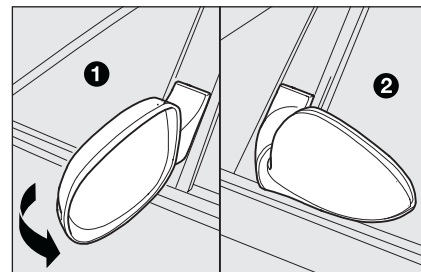

fig. 55
When required (for example when the mirror causes difficulty in narrow spaces) it is possible to fold the mirror moving it from position **1** to position **2**-fig. 55.
*When driving the mirrors shall always be in position 1-fig. 55.*